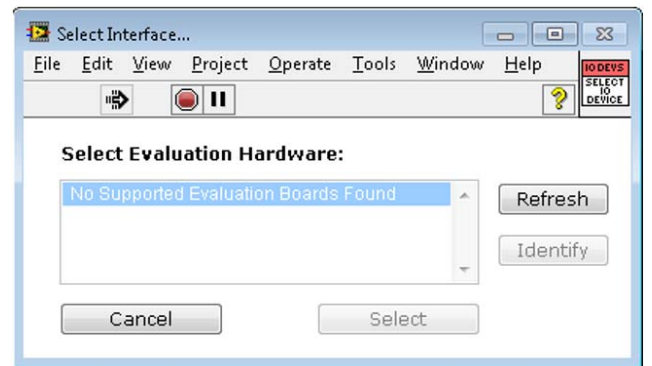

Figure 14. Connectivity Error Alert
2. If the **AD7768** evaluation system is not connected to the USB port via the **EVAL-SDP-CH1Z** when the software is launched, a connectivity error displays prompting the user to choose an evaluation board (see Figure 14). Connect the evaluation board to the USB port of the PC, wait a few seconds, click **Rescan**, and then follow the on-screen instructions.